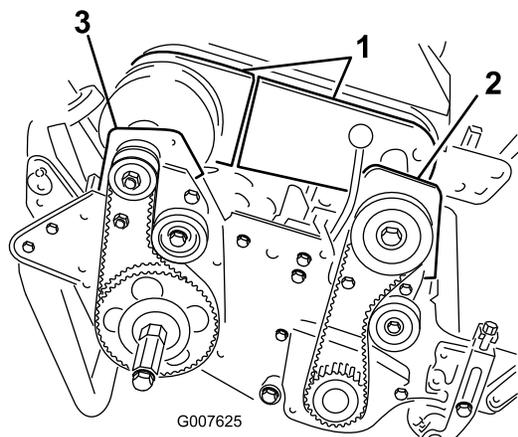

Figure 41
4. Remove the bolts securing the front and rear sections of the differential cover to the differential housing and slide the cover sections away to expose the belt (Figure 41).
6. Remove the 2 bolts and locknuts securing the front clutch housing to the side plate (Figure 41).